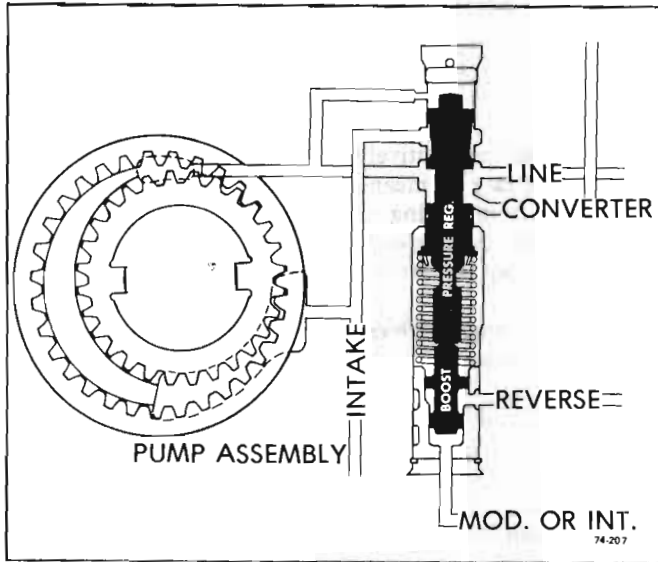

Figure 76-13 - Pump and Pressure Regulator Valve
lic system. Hydraulic pressure is supplied by the transmission gear type oil pump, which is engine driven. Main line pressure is controlled by a pressure regulator valve train located in the pump. This regulator controls line pressure automatically, in response to a pressure signal from a modulator valve, in such a way that the torque requirements of the transmission are met and smooth shifts are obtained at all throttle openings. See Figure 76-13.
a. Regulates line pressure according to a fixed spring force and forces controlled by modulator and reverse pressure. See Figure 76-13.